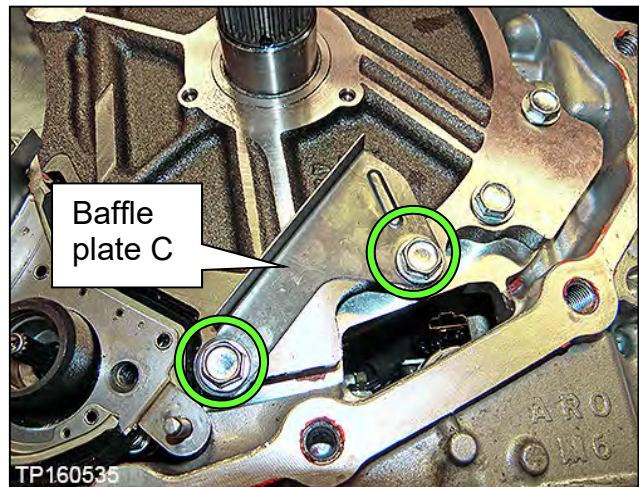

Figure 47
28. Remove the two (2) bolts from baffle plate C, and then remove baffle plate C (Figure 47).